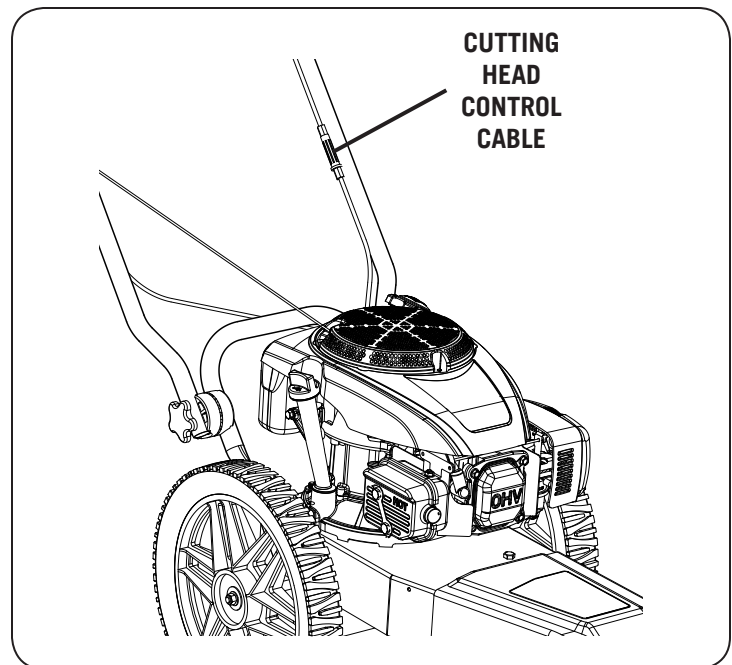

Figure 15
1. Locate the cutting head cable along the left handlebar. There is an in-line adjuster to change the tension on the cable (see Figure 15).